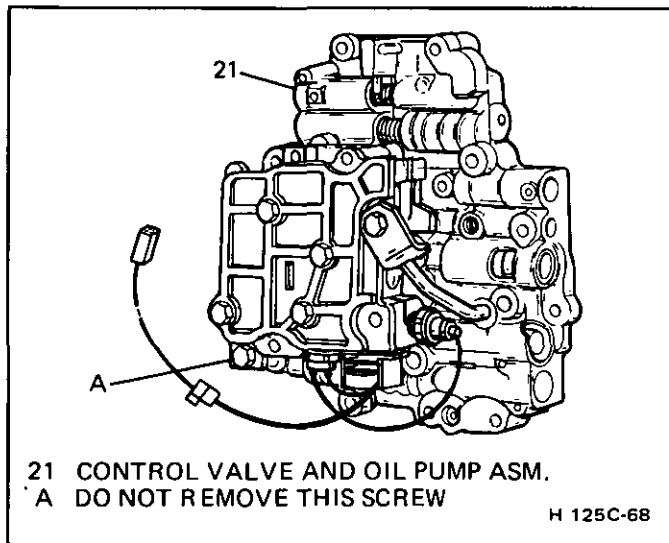
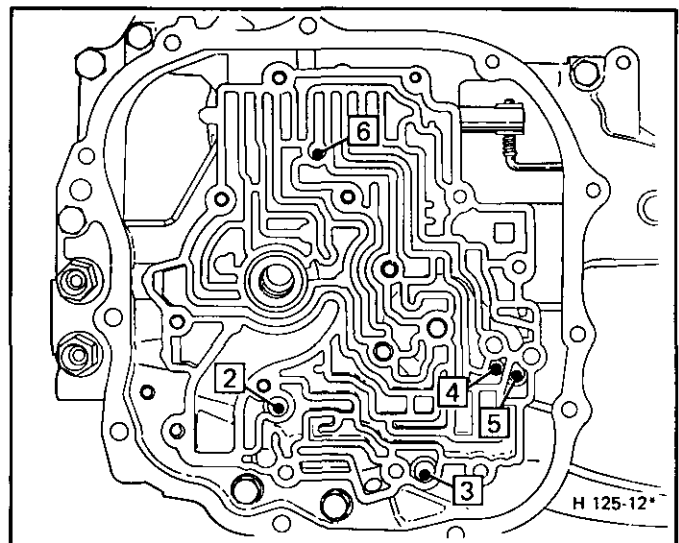

Figure 14 Control Valve/Pump Assembly
Figure 15 Check Ball Locations
- Screws (27) (Leave two screws finger tight - tap the cover (26) with rubber mallet.)
- Cover (26)
- Bolts (24) - Do not remove the screw marked "A" (Figure 14)
- Bracket assembly (23) and T.V. cable link (22)
- Valve body (21) - Do not place the machined side on the bench
- Number one check ball (16)
- Pump shaft (18)
- Spacer plate (20) and gaskets (19)
- Five check balls (Figure 15)